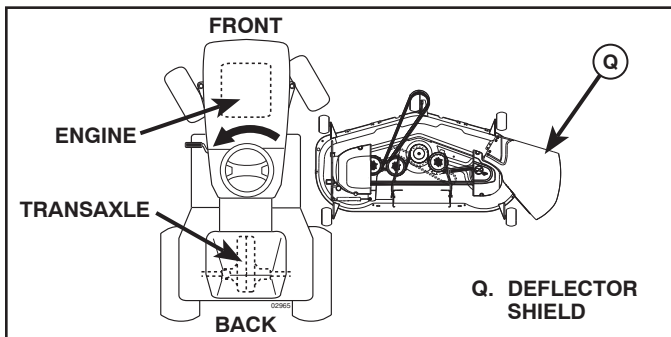

Fig. 6
3. TURN STEERING WHEEL LEFT AND POSITION MOWER (See Fig. 6)
- Turn steering wheel to the left as far as it will go and position mower on right side of tractor with deflector shield (Q) to the right.
9 INSTALL BELT ON ENGINE CLUTCH PULLEY (M) (See Fig. 6 & 15)
- Disengage belt tension rod (K) from locking bracket (L).
- Install belt onto engine clutch pulley (M).